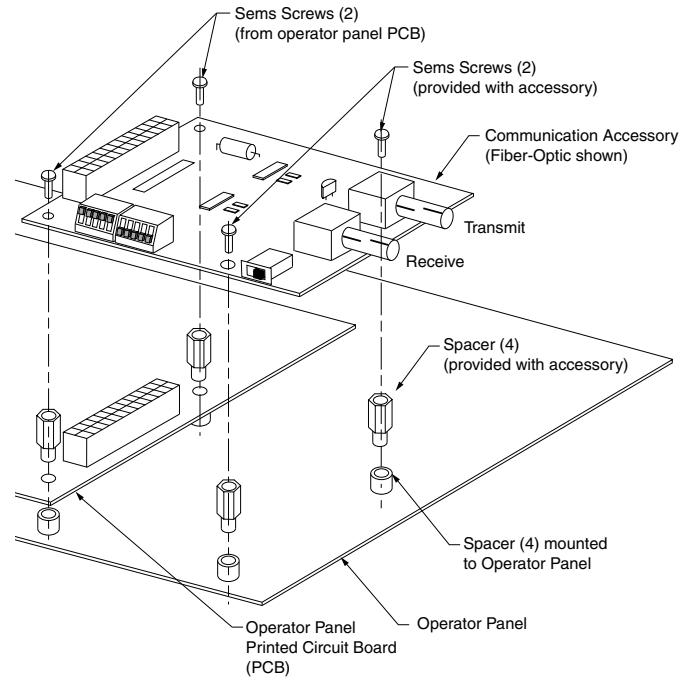

Figure 9.
4. Carefully turn the operator panel over and locate the four spacers at the bottom of the panel. See Figure 9.
Refer to Figure 9 and follow these instructions to install a single communication accessory.
7. Secure the accessory with the kit-provided sems screws and the screws previously removed from the operator panel PCB. See Figure 9.